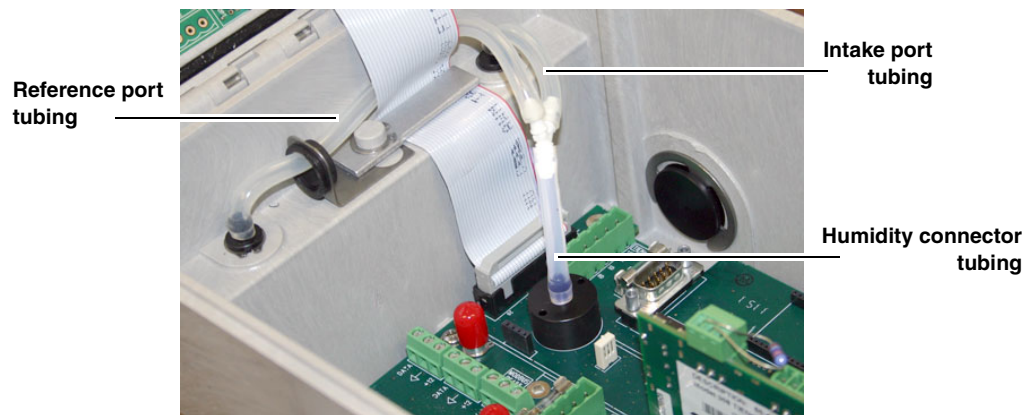

Figure 5-15 Tubing configuration for optimal drying power
4. Connect the ‘Y’ connector to the humidity connector (Figure 5-15).